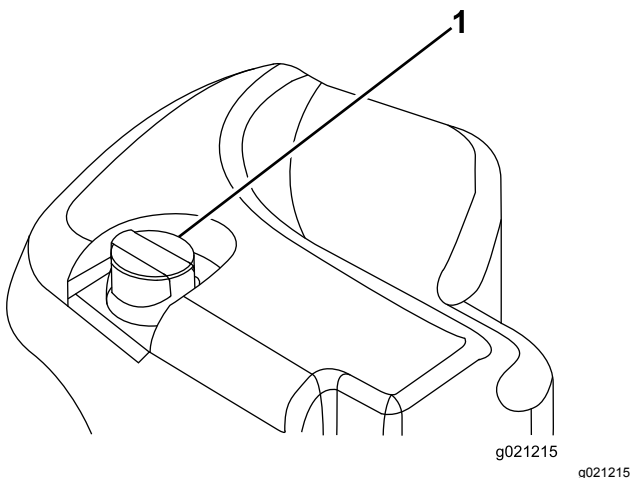

Figure 98
2. Clean the area around the filler neck and cap of the hydraulic tank (Figure 98). Remove the cap from the filler neck.